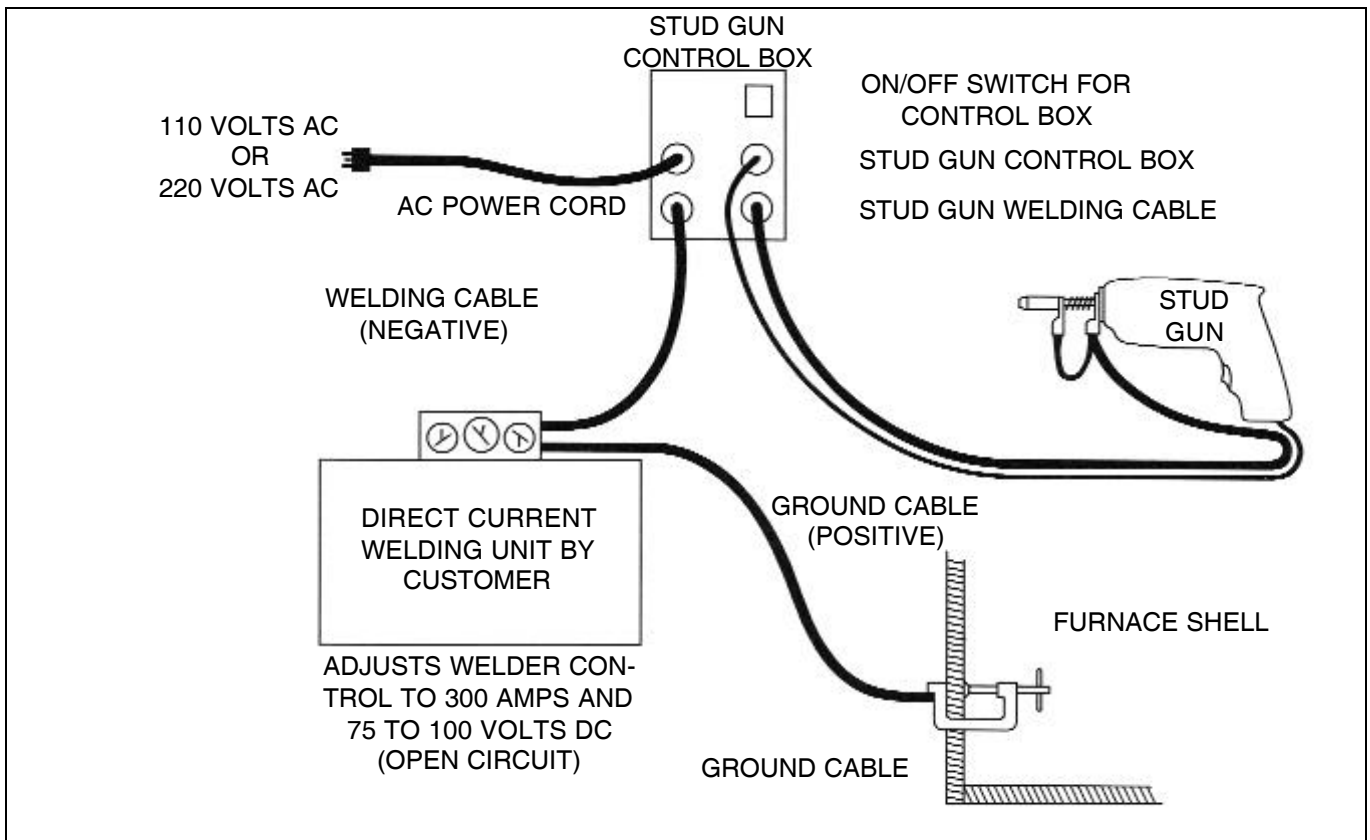

Figure 8 - Stud Gun/Control Box Hook Up
- **Pyro-Bloc Stud Gun and Control Box** (See Figure 8).